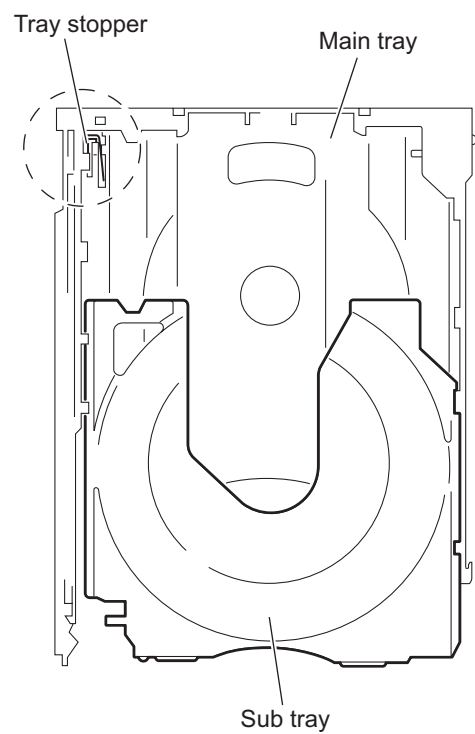

Fig.36
- (6) After clearing away the disc, insert the sub tray into the main tray. (See Fig.36.)
When reattaching the sub tray, move the tray stopper on the bottom of the main tray in the direction of the arrow to lock the sub tray certainly. (See Figs.36 and 37.)